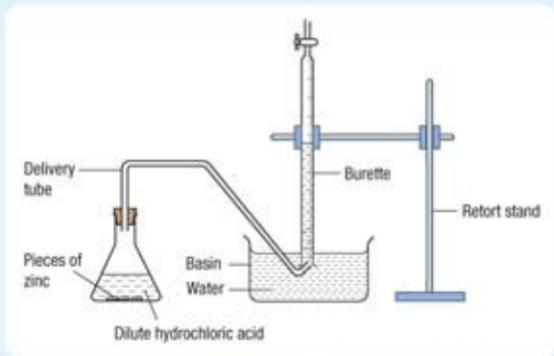

Figure 4.18
5. Immediately close the conical flask with the rubber stopper which is connected to a delivery tube. The other end of the delivery tube is placed under the burette (Figure 4.18). Start the stopwatch.